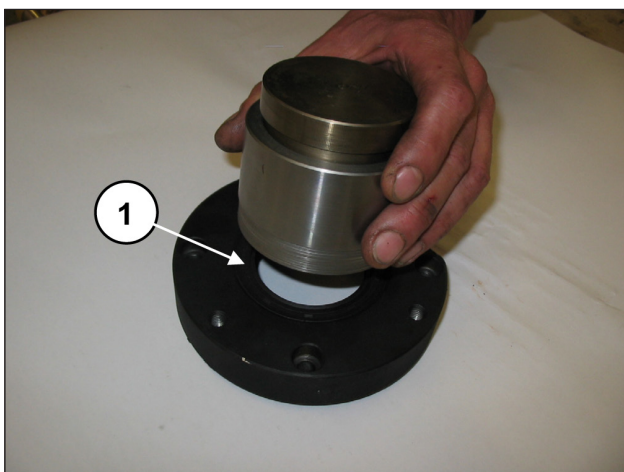
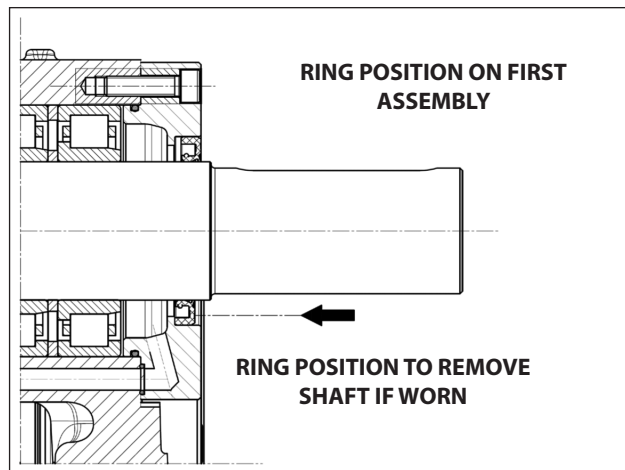

Fig. 63
Fig. 64
Pre-assemble the left and right PTO bearing covers: Insert the radial seal ring into the PTO bearing cover using the tool code 27548200 (pos. ①, Fig. 63). Before proceeding with the assembly of the radial seal ring, verify the condition of the seal lip. If it is necessary to replace it, position the new ring as shown in Fig. 64.
If the PTO shaft shows diameter wear corresponding to the seal lip, then to avoid grinding you can position the ring as a second step as shown in Fig. 64.